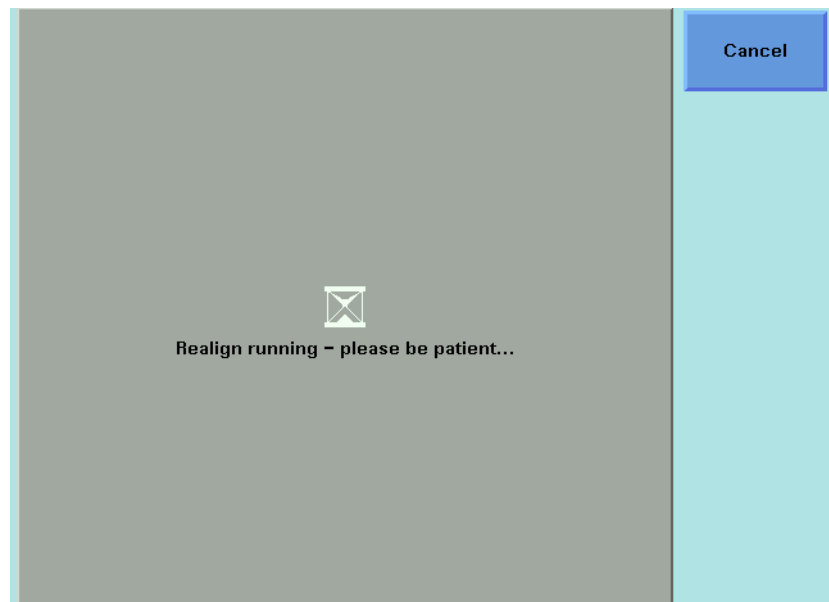

Figure 81 Realign Screen
- 2 Move to *<Realign>* and press *[OK]*. You will see the screen in Figure 81 .